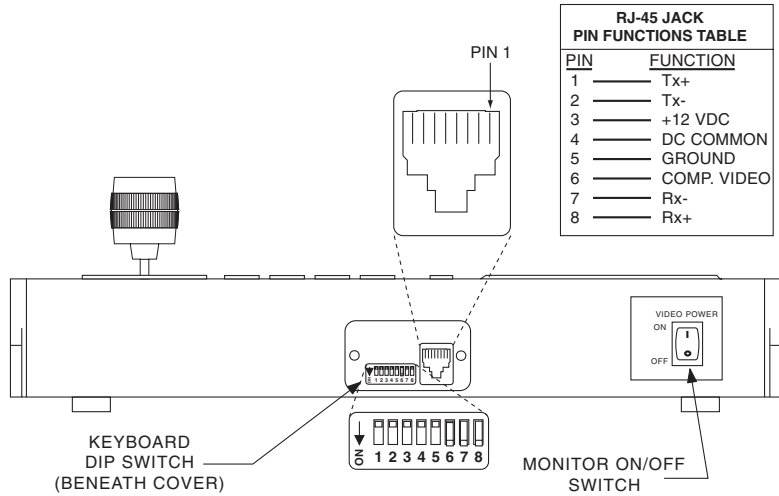

Figure 1. Rear Panel of KDB4000V Keyboard
1. Remove the DIP switch cover plate from the rear of the keyboard (refer to Figure 1).
2. Set the switches (refer to Figure 1 for switch locations).